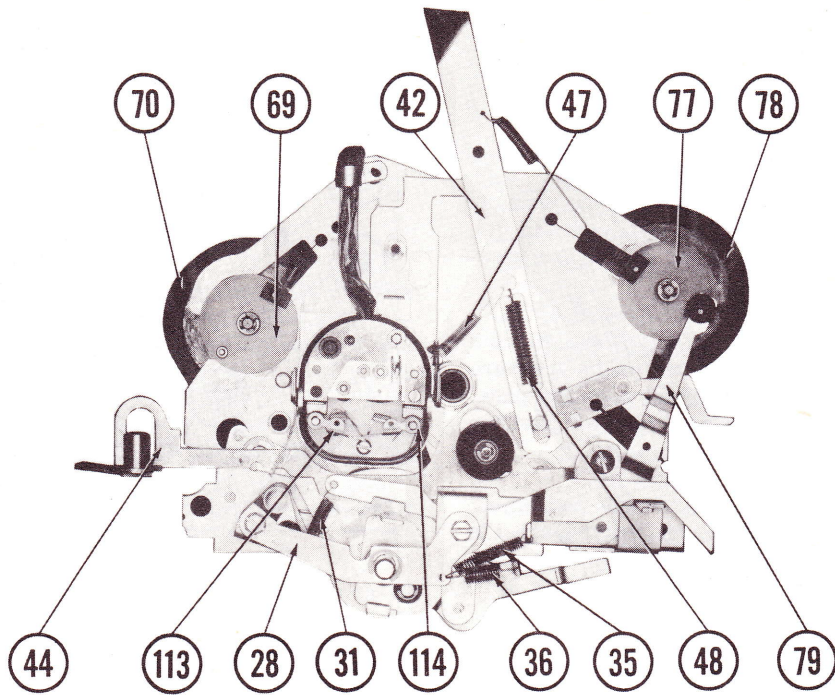

Fig. 16. Top View of Top Mechanism Plate Assembly
Spring (36) disconnected or broken. This spring must be connected as shown in Fig. 16. If not, the